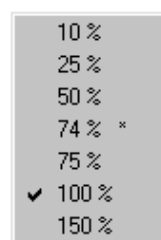

Figure 163: Zoom popup menu
- Right-click on the zoom field of the status line. A popup-menu (see fig. 163, p. 191) listing possible zoom values for selection appears. A tick marks the current value. The value, which allows the whole model to be displayed in the modelling window, is marked by an asterisk.